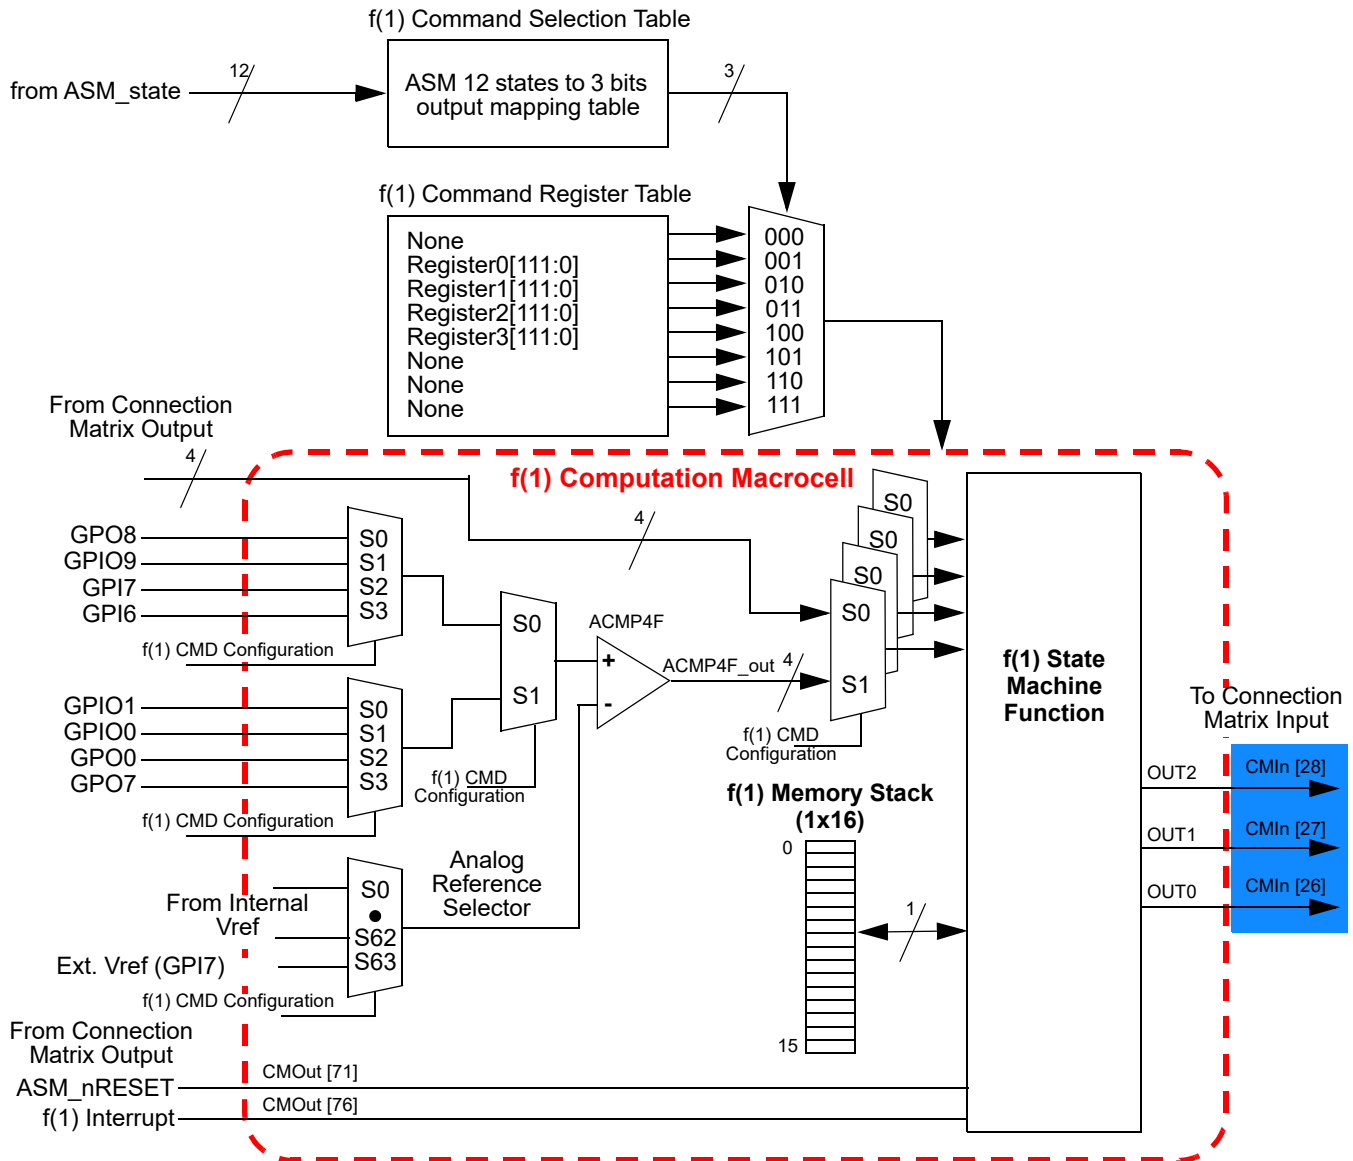

Figure 121: f(1) Computation Macrocell Output Signals
17.4 F(1) COMPUTATION MACROCELL OUTPUT SIGNALS
The f(1) Computation Macrocell has 3 digital output signals that go to the Connection Matrix, and from there can be routed to other internal macrocells or pins. These signals are shown in Figure 121, highlighted in blue. The state of these output signals are under user control, and are changed based on the Output commands.